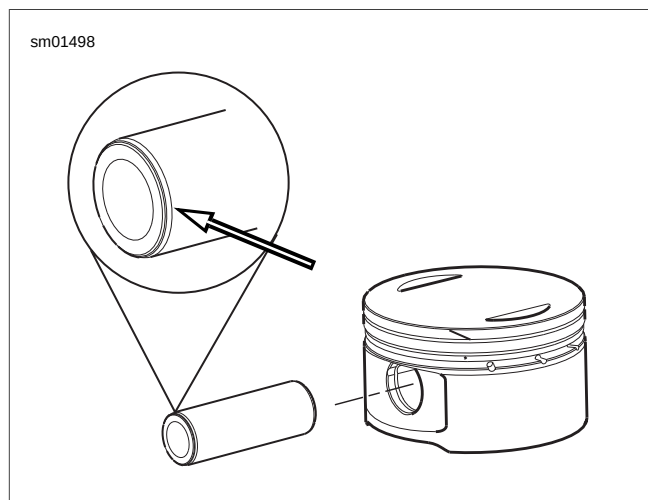

Figure 3-51. Tapered Ends on Piston Pin
- See Figure 3-51. Piston pin has tapered ends to help seat the round lock rings.